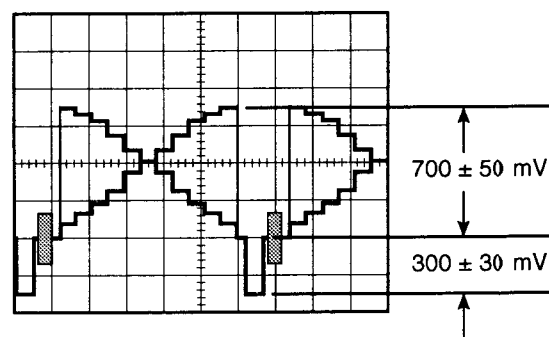

Fig. 5-22
- Adjust data with the **ARROW** keys so that the Video signal level becomes 700 ± 50 mV as shown in Fig. 5-22.